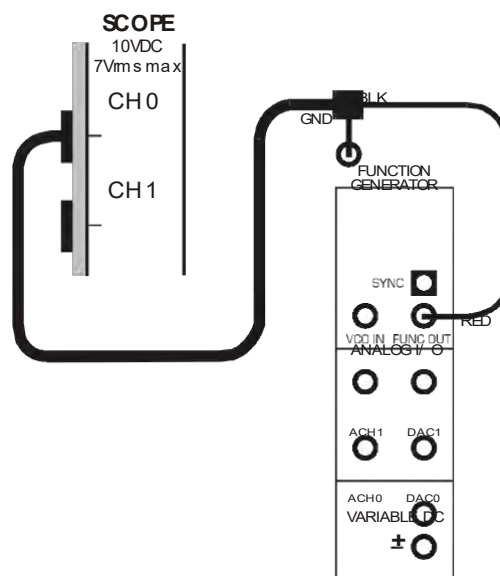

Figure 13
28. To observe the function generator's output, connect the set-up shown in Figure 13 below.